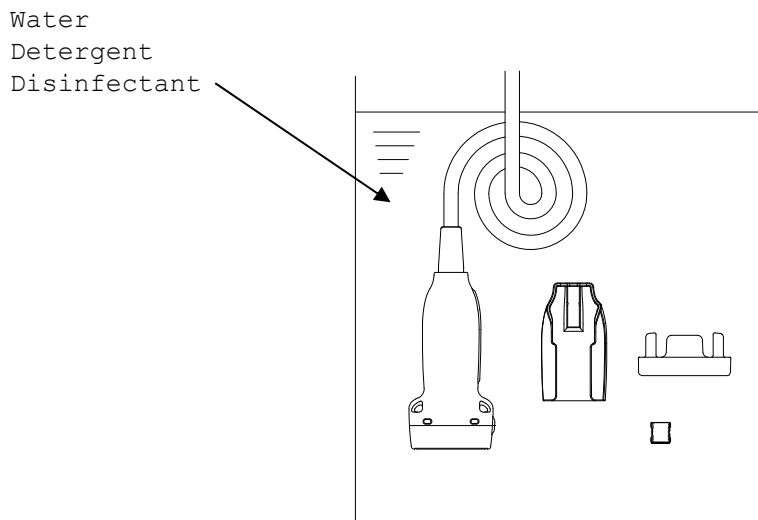

Fig. 15 Immersion of the probe, the magnetic sensor attachment, the spacer for EZU-RV2S and the elasto coupler
- 2) Immerse the immersible part of the probe without connector into the diluted detergent solution (see Fig. 15). Wipe the immersible part of the probe under the surface of the detergent solution with a soft cloth to remove all visible soil. Be sure that all grooves of the probe are implemented during the cleaning process.
- 5) Rinse the probe with running tap water for 1 minute. (alternatively: immerse the immersible part of the probe in a tray filled with deionized water/tap water (see Fig. 15) for 5 min.)
- 4) Rinse the magnetic sensor attachment and the spacer for EZU-RV2S with running tap water for 1 minute. (alternatively: immerse them in a tray filled with deionized water/tap water (see Fig. 15) for 5 min.)
- 3) Immerse the immersible part of the probe into the disinfectant (see Fig. 15). Set a clock to insure the recommended contact time which is 5 minutes.
- 4) Rinse the immersible part of the probe with deionized water for 1 minute. (alternatively: immerse the immersible part of the probe in a tray filled with deionized water (see Fig. 15) for 5 min.)
- 2) Immerse the magnetic sensor attachment and the spacer for EZU-RV2S into the disinfectant (see Fig. 15). Set a clock to insure the recommended contact time which is 5 minutes.
- 3) Rinse the magnetic sensor attachment and the spacer for EZU-RV2S with deionized water for 1 minute. (alternatively: immerse them in a tray filled with deionized water (see Fig. 15) for 5 min.)